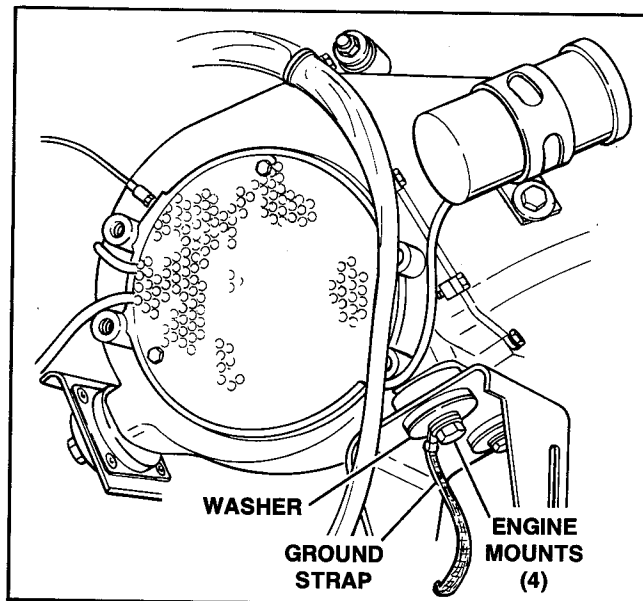

Figure 7-2 - Engine Mounts
- h. See Figure 7-2. Disconnect the stabilizer from the engine. Remove the engine mounting hardware. Remove the engine from the frame.
Inspection and Repair of Motor Mounts (Figure 7-2)
- a. See Figure 7-2. Place the engine in the frame. Secure the engine to the mounts using the original hardware. Secure engine ground strap to left front motor mount bolt. Tighten the bolts and nuts to 30-35 ft.-lbs. (4.1-4.8 kgm) torque.